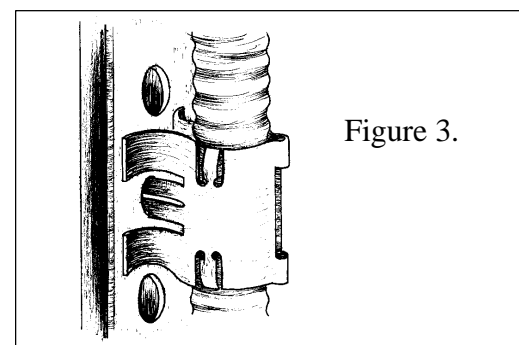

Figure 3.
4. Proper installation requires all four prongs of the locking member to be securely engaged in the pre-drilled mounting hole. See Figure 3.